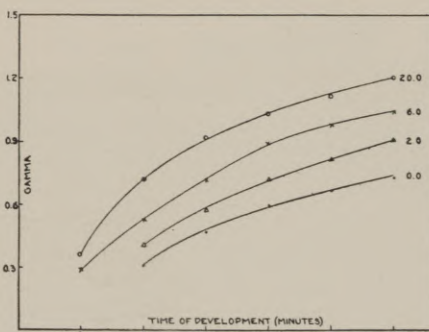

Fig. 4. Time-gamma curves for increasing quantities of borax in the regular formula at 66°F. The borax content is in grams per liter (Rack and Tank method).
The alkalinity of the developer can be increased by increasing the quantity of borax. Fig. 4 gives time-gamma curves for the regular formula with increasing concentrations of borax up to 20 grams per liter and shows graphically how the rate of development increases with an increase in borax content. If a gamma of 0.9 can be produced in 18 minutes with the regular formula, the same gamma can be obtained in 12½ minutes in a formula containing 6 grams of borax per liter; and in 9 minutes with 20 grams of borax per liter.
(7) *Practical Methods of Changing the rate of Development.*—The rate of development can be increased by increasing the concentration of borax as shown in Fig. 4 and to a lesser degree by increasing the concentration of the developing agents if extra borax is added to compensate for their acidity.